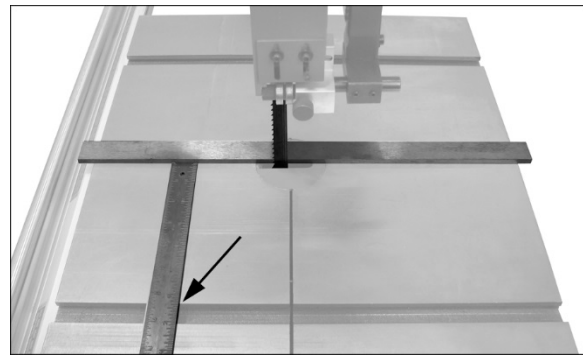

Figure 5-15
back of blade. See Figure 5-15. Do not deflect blade by pushing into it.
2. Use a gauge or ruler (Figure 5-15) to carefully measure distance from miter slot edge to straight edge. Take measurements at both front and back of table – these should be identical.